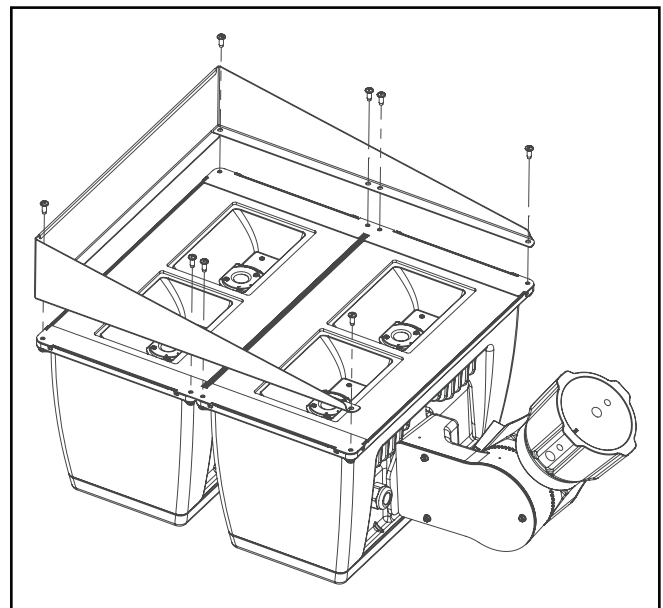

Figure 7.
### Visor (Figure 7.)
1. Loosen and remove the existing (4) 10-24 Philips head screws on the face of the fixture and retain for future reference.
2. Align visor on top of lens clips matching the (4) existing holes. (Figure 7.)
3. Use the existing (4) 10-24 Philips head screws to secure visor.